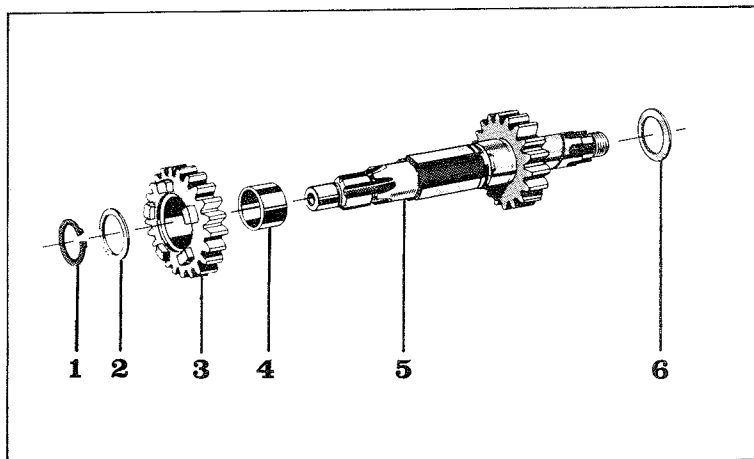

Fig. 6
6. Fit the 3rd pinion, bushing and washer onto the clutchshaft if these parts have been dismantled. See Fig. 6.